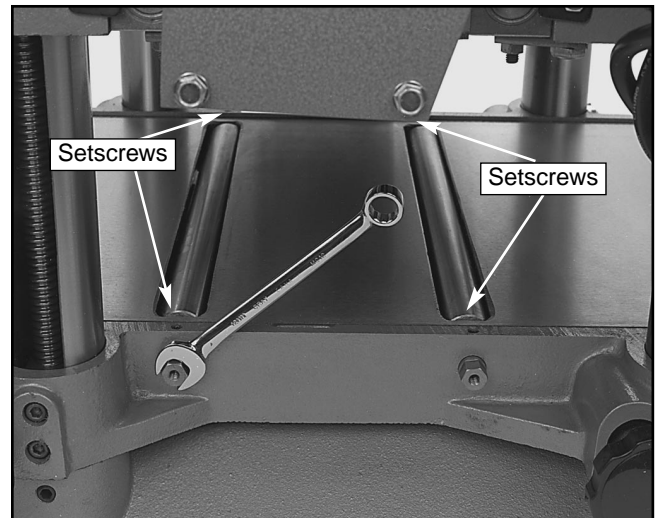

Figure 28. Adjusting bed roller height.
3. Loosen the setscrews on both sides of each bed roller. **See Figure 28.**